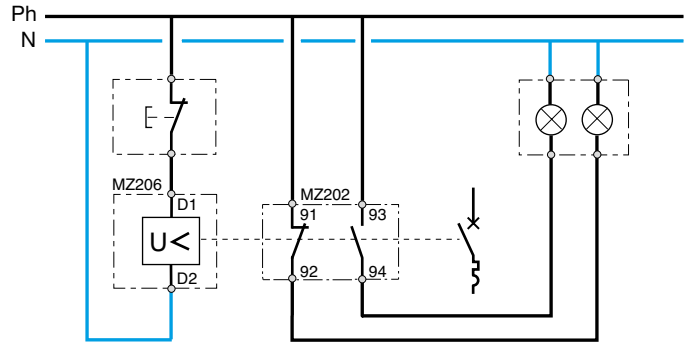

Fig. 10
**MZ206 Under Voltage Release\* (Fig 10)**